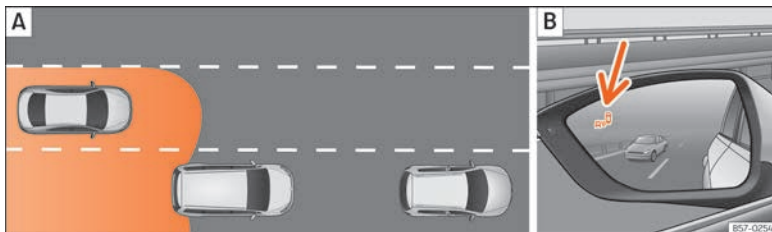

Fig. 273 Schematic diagram: **A** Passing situation with traffic behind the vehicle. **B** Indication from the blind spot detector in the left-hand external mirror.
the outside »» Fig. 272. The sensors monitor both the blind spot and traffic behind the vehicle »» Fig. 273, »» Fig. 274. The range to the sides of the vehicle is a bit larger than the width of a lane.
In the following situations, an indication will be displayed in the external mirror »» **Fig. 273 B** (arrow) or »» **Fig. 274 B** (arrow):
- When being overtaken by another vehicle »» **Fig. 273 A**.